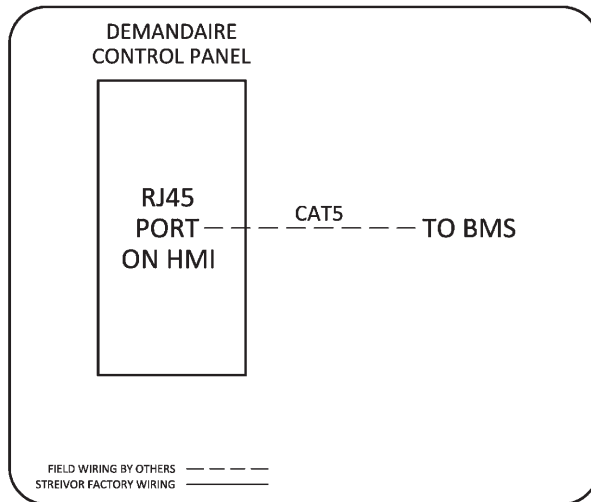

FIGURE 14: Optional Modbus TCP Communication Wiring
- A CAT5 or greater Ethernet communication cable may be connected to the RJ45 port on the HMI in the control panel for Modbus TCP communication with Building Management System(s) (*Figure 14*).